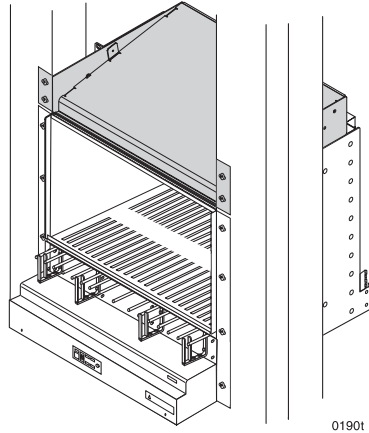

Figure 4 *Positioning an Air Ramp*
2. Position an air ramp just above or resting directly on the SmartEdge 800 chassis so that the screw holes in the air ramp mounting brackets are aligned with the screw holes in the rack just above the chassis; see Figure 4.